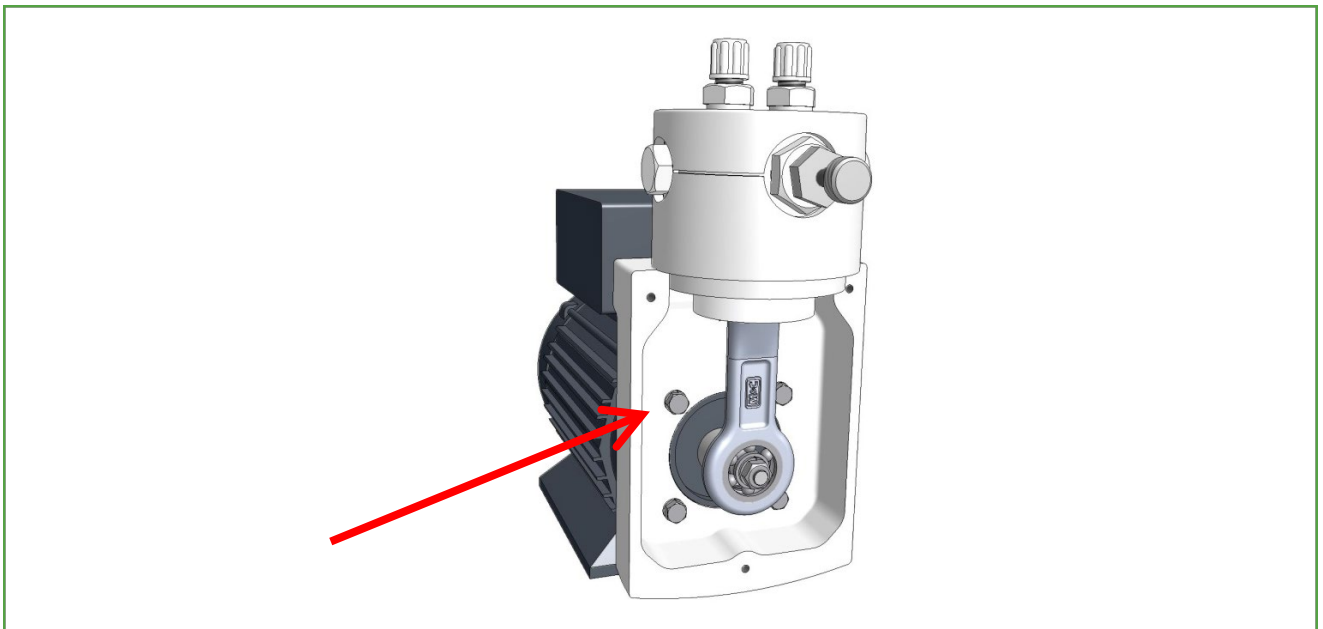

Figure 7 Rotating the pump head
3. Unscrew and remove the four flange screws with the lock washers shown in Figure 7.